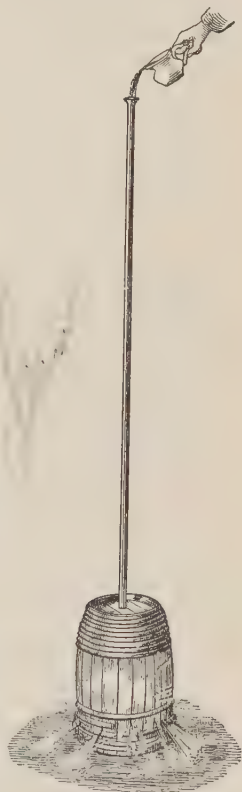

FIGURE 61. — The pressure of the water in the pipe is breaking the cask.
The weight lifter used in the last experiment can be made with a top large enough for a man to stand upon. The pressure through a small water pipe will be enough to lift a man. Pascal burst a strong cask by means of the pressure of water in a vertical pipe that fitted tightly into the top of the cask (Figure 61). Closely allied to the weight lifter is another de-
15. Explain the use of the long pipe in Figure 61.